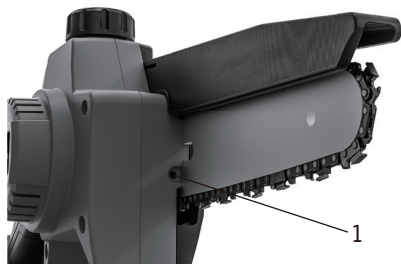

FIG.8
- (1) Place the pruning saw on any suitable flat surface.
- (2) Loosen the sprocket cover knob a bit to loosen the sprocket cover slightly.
- (3) Lift-up the guide bar tip slightly and adjust the chain tension. Turn the adjusting screw (1) (Fig.8) clockwise to tighten, turn it counter-clockwise to loosen. Tighten the saw chain until the lower side of the saw chain fits in the guide bar grooves as illustrated (Fig.8), or until the chain can be lifted off the guide bar and the drive link is within the grooves of the guide bar.